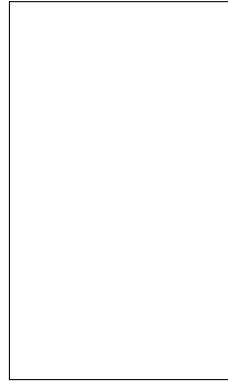
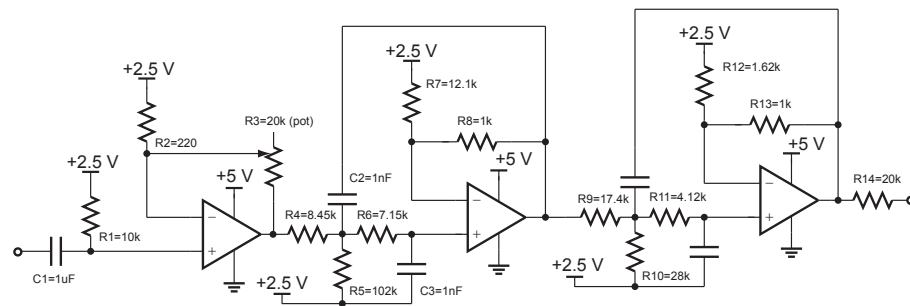

Figure 9: Schematic of the connection between Arduino UNO and the MCP4921.
Figure 10: Schematic of the active low-pass filter.
1. Using Fig. 9 as a reference, connect the Teensy to the MCP4921 DAC. Connect the MCP4921's VDD pin to the output of the LM317 regulator (5 V). Connect the MCP4921's VREF pin to the LT1009 reference's output (2.5 V). Connect both AVSS and $\overline{\text{LDAC}}$ of the MCP4921 to ground. A 0.1 μF and a 1 μF capacitor could be used at VREF to minimize noise at the reference. It is very important to keep your circuit (ICs, resistors, capacitors, wires, etc) organized. Use as short of a wire as possible between two connection points. Refer to Fig. 10 for an example layout.